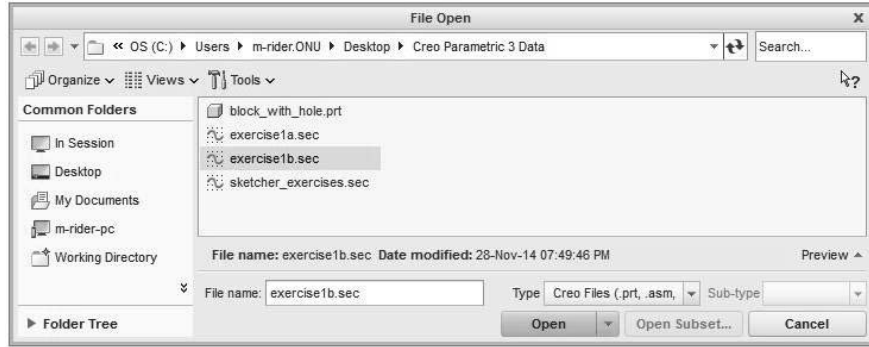

Figure 3-61 Open "exercise1b.sec"
Step 26: Locate "exercise1b.sec" in your working directory. *Pick* the **Open** button as shown in Figure 3-61.